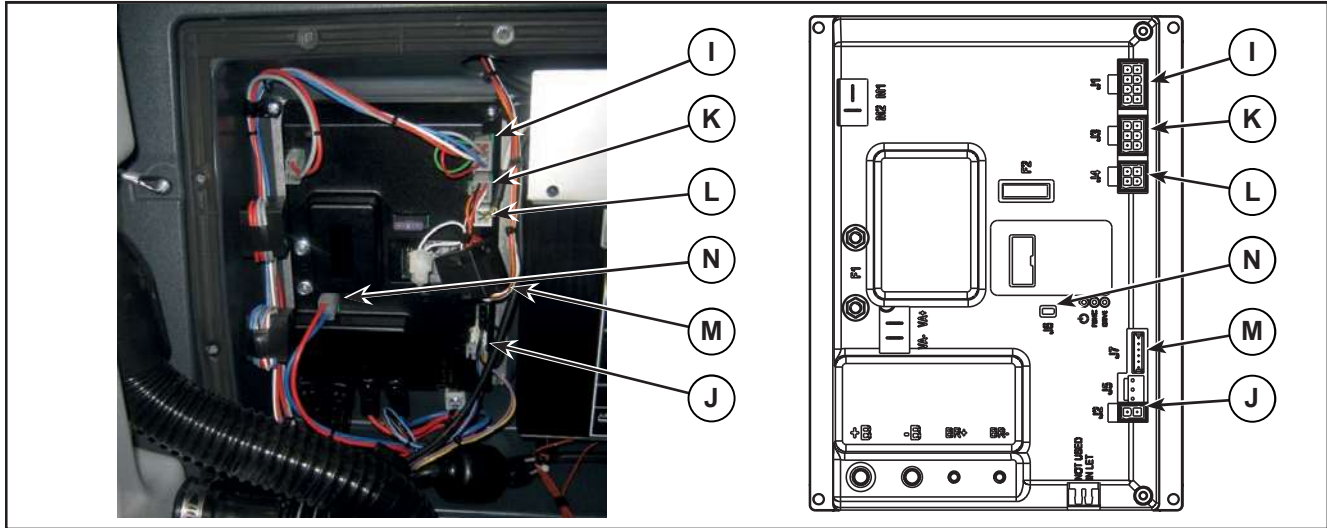

Figure 14:
6. Disconnect the following connections sequentially (Figure 14):
- (I) Deck actuator and detergent pump connection (J1).
- (J) Solenoid valve connection (J2).
- (K) Display controller connection (J3).
- (L) Battery charger connection (J4).
- (M) Detergent level sensor connection (J5).
- (N) Connection (J6).